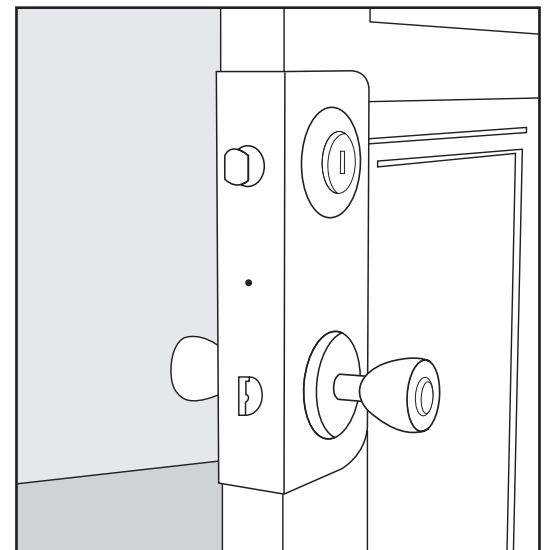

FIG. DS-05
4. With the Door Shield in place, install the locks, making sure they can be installed with no interference from the Door Shield (FIG. DS-05). Now check the Door Shield, making sure it is level and flush against the door on all sides. **Note:** For Universal applications, this will need to be done for both Door Shield pieces.